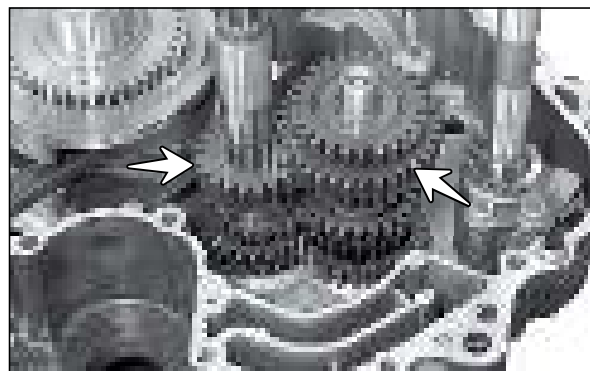

Fig. 3.197
- Assemble the counter shaft assembly (clutch shaft) and drive shaft assembly as set in crankcase assembly LH. (Fig. 3.197)